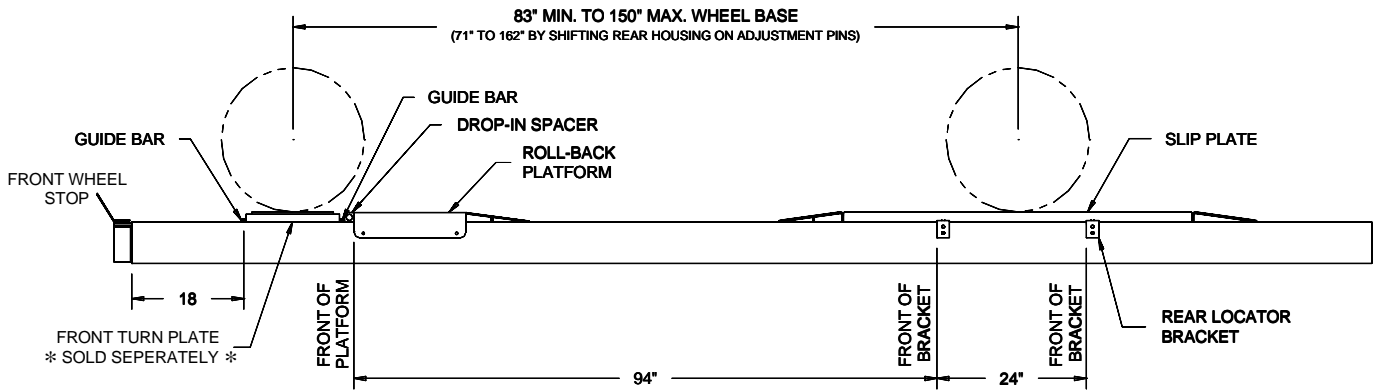

Fig 1 – General Specifications and Layout
- 1) Raise the lift to a comfortable work height and lay out the Bolt-On Alignment Kit components on the lift runways, see Fig 1. (Note: all left and right components are identical except the Front Roll-Back Platforms)
IMPORTANT: Locations illustrated in Fig 1 are only suggested and may be repositioned to better suit specific needs. If Front Turn Plates are positioned less than 18" from the front cross beam, ensure the alignment equipment will clear the front wheel stop.
- 3) Attach Guide Bar to runway using (3) #10-24NC Socket Head Cap Screws and lock nuts provided. Use square to check position.
- 6) Position the Drop-In Spacer and the Roll-Back Platform, **Fig 1**. Using the holes in the side of the Roll-Back Platform as a template, drill (2) 13/32" holes for both runways. Mount platforms using 3/8" flange bolts and nuts provided.
- 7) Locate the front edge of the Rear Locator 94" back from the front edge of the Roll-Back Platform, see **Fig 1**. Using the holes in the Rear Locator, drill (2) 13/32" holes through the side of the runway. Bolt the rear locator using the 3/8" flange bolts and nuts provided.